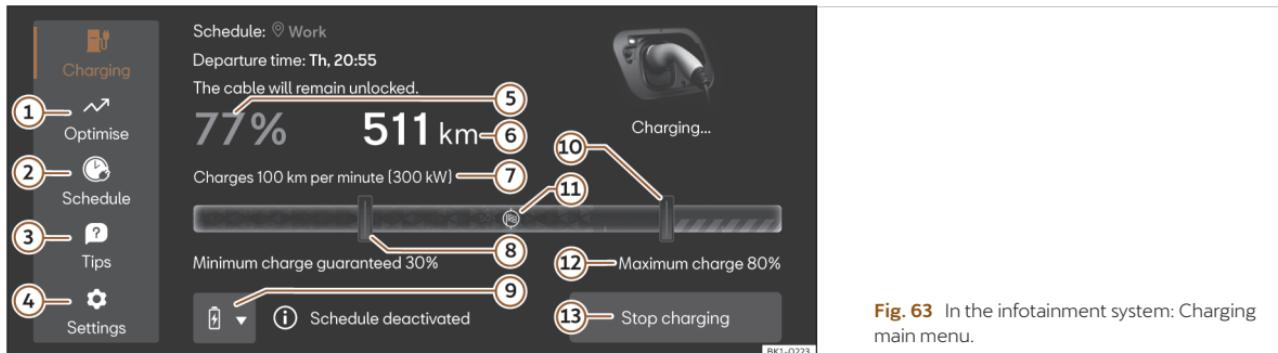

Fig. 63 In the infotainment system: Charging main menu.
2. Push the  (4) >>> Fig. 63 button.